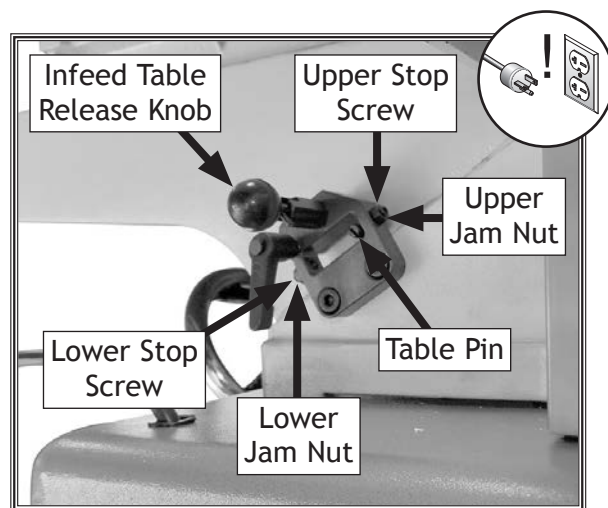

Figure 35. Positive-stop components for infeed table.
The infeed table has positive-stop screws (see **Figure 35**) that allow you to quickly adjust the infeed table between finish/final cuts and shaping/heavy cuts and the maximum depth of cut of $\frac{1}{2}$ " when rabbeting.
2. Loosen jam nuts on both stop screws (see **Figure 35**).
3. Raise table to minimum desired depth of cut, then tighten upper stop screw (see **Figure 35**) until it contacts table. Tighten jam nut to secure stop screw in position.
Note: If you need to lower the infeed table more than $\frac{1}{8}$ ", then pull and hold the $\frac{1}{8}$ " depth stop release knob (see **Figure 35**) while lowering infeed table.